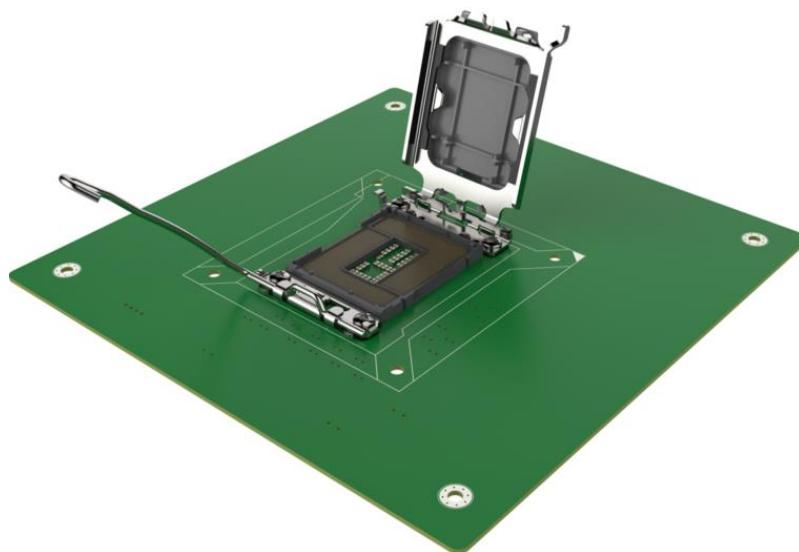

Figure 4-2: Remove Protective Cover
Step 2: **Open the socket.** See **Figure 4-2**.